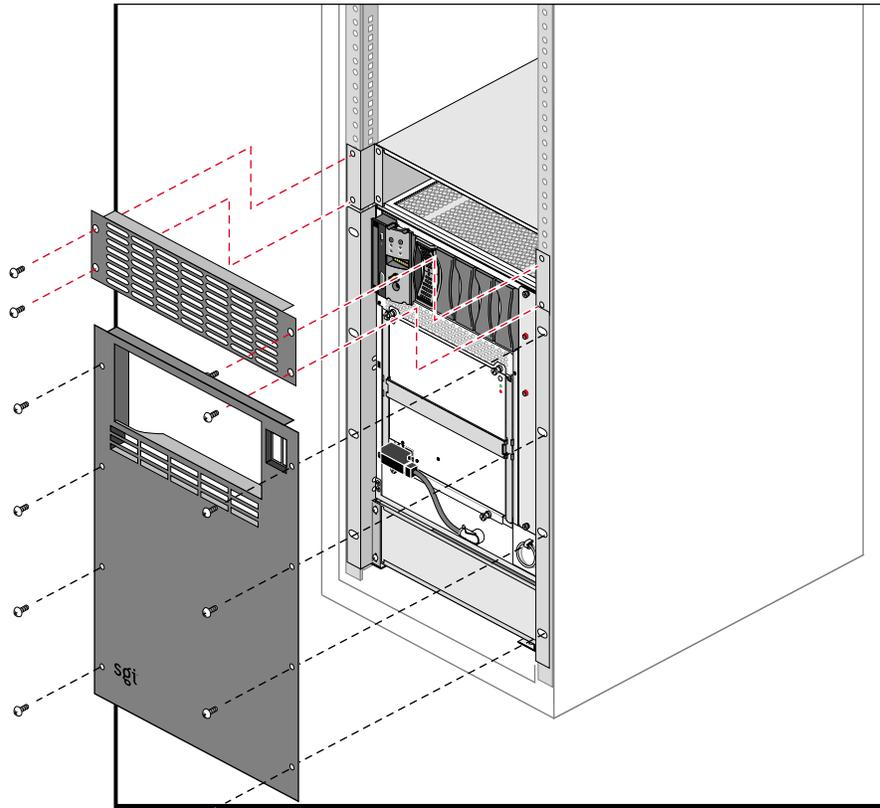

Figure 1-9 Attaching the Front Panel and Plenum Cover
10. Position the front panel mounting holes over the chassis bracket mounting holes and attach the panel and chassis brackets to the equipment rack front retma rails with the mounting screws (see Figure 1-9).